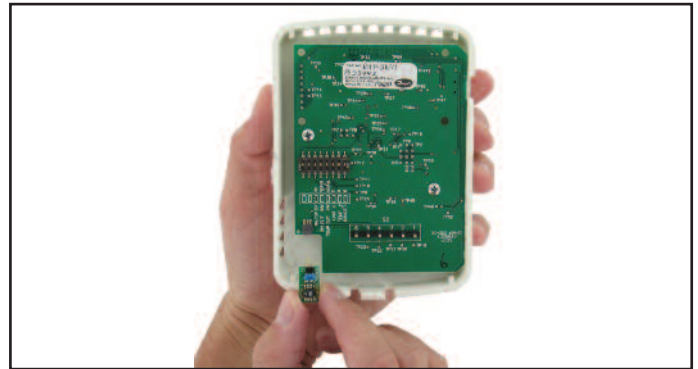

Figure 8
2. Remove existing sensor as shown in Figure 8.